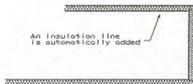

Figure 4
3. Draw a new wall. Note the insulation centerline is drawn as you create your walls, as shown in figure 4.